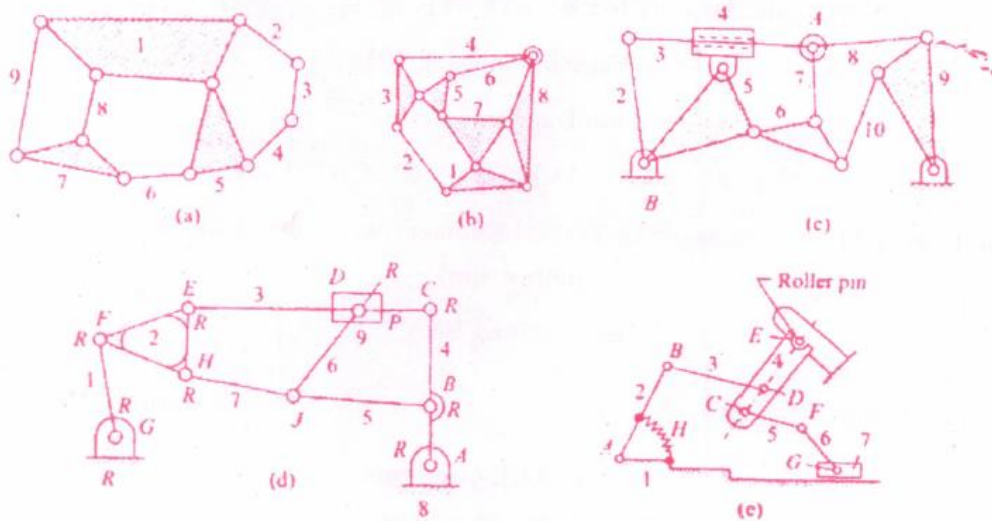

Fig 11 (b)
- (b) (i) Find the degrees of freedom of the mechanisms shown in fig. 11 (b). (10)